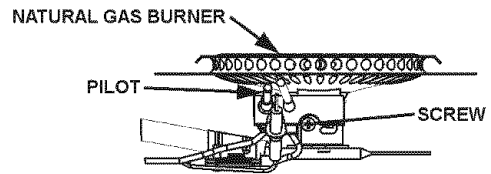

FIGURE 22.
- Remove the Phillips-head screw holding the pilot bracket to the burner head, see Figure 22.